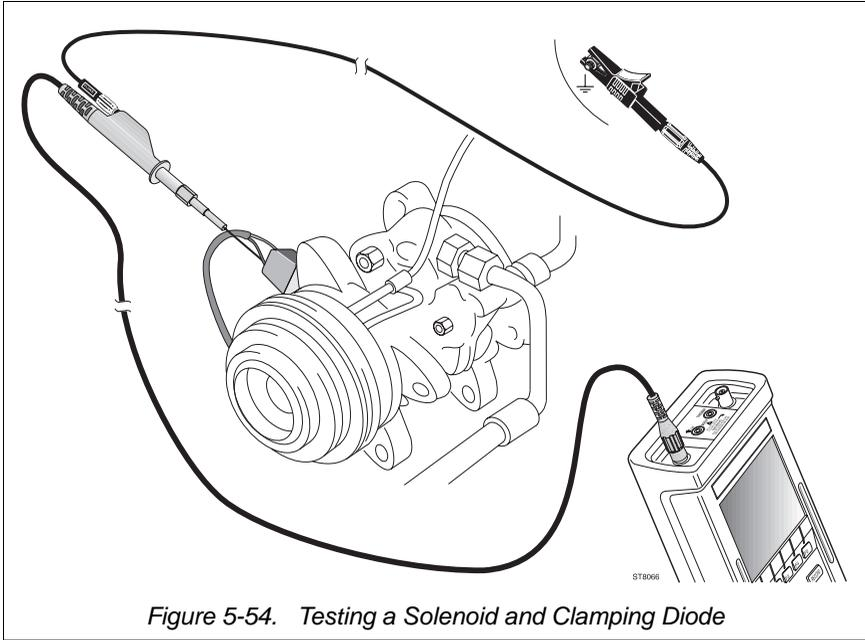

Figure 5-54. Testing a Solenoid and Clamping Diode
- Connect the test leads as displayed by the test tool's Connection Help and shown in Figure 5-54.